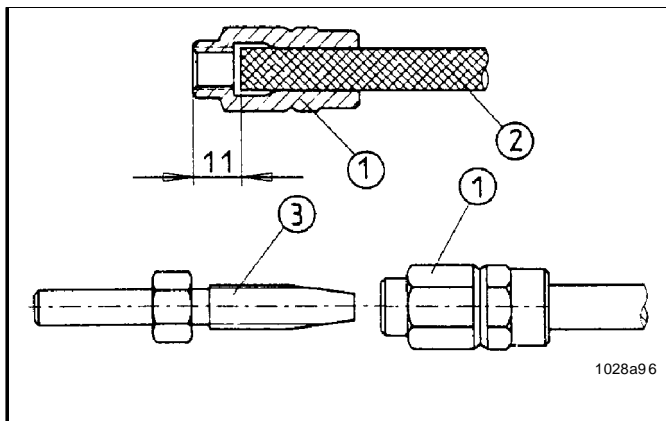

Fig. 7 Preassembly of threaded sleeves and hose studs on the high-pressure hose
- Screw threaded sleeve, item 1 Fig. 7, counterclockwise onto high-pressure plastic hose 2 until illustrated dimension of 11 mm is reached. Then screw hose stud 3 into threaded sleeve 1.